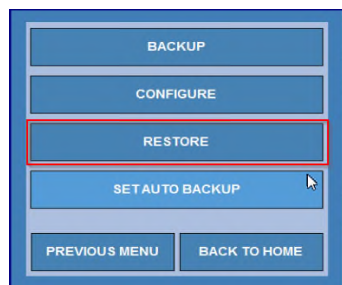

Figure 10.65 – Restoring a Database
- 1) Enter the menu by pressing the menu button (see figure 10.65 above). Navigate the menus to the **Menu > Operational Parameters > Instrument Configuration > Backup/Restore > Configuration Settings** menu.
- 1) Enter the menu by pressing the menu button (see figure 10.65 above). Navigate the menus to the **Menu > Operational Parameters > Instrument Configuration > Backup/Restore > Database Settings** menu.